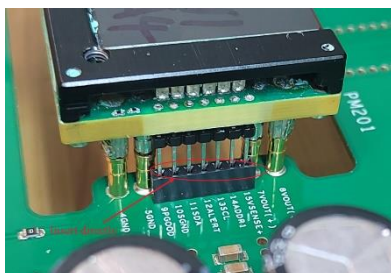
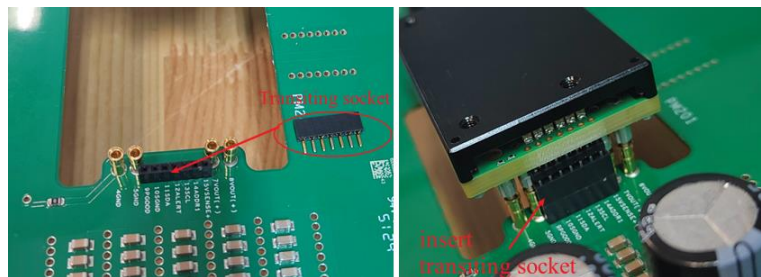

Fig. 2 Inserting Pins
Fig. 3 Inserting Transiting Socket
**Note 1:** The EVM board can be used for 6.35mm and 8.00mm pin lengths version module directly (See Fig 2). For 2.79mm , 3.68mm, 4.57mm short pin length version a transiting socket is required(See Fig 3).